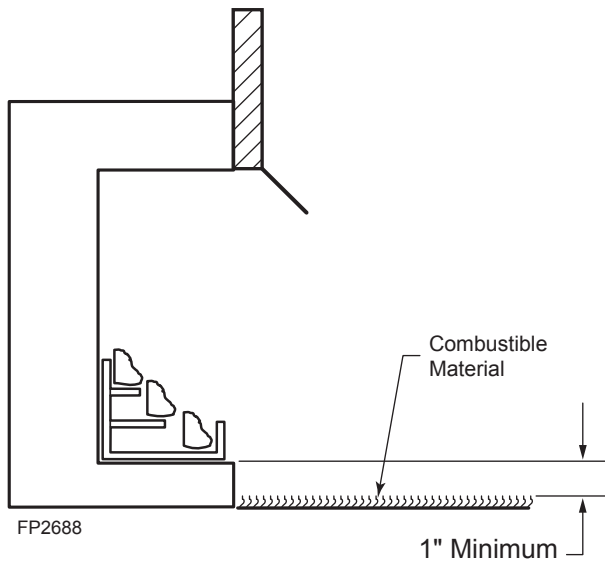

Figure 5 -
4. **Floor clearance:** This inner chamber firebox floor must be installed at least 1" above any combustible flooring material, such as carpeting or asphalt tile, which is closer than 14" to the base of the firebox. *Figure 5*